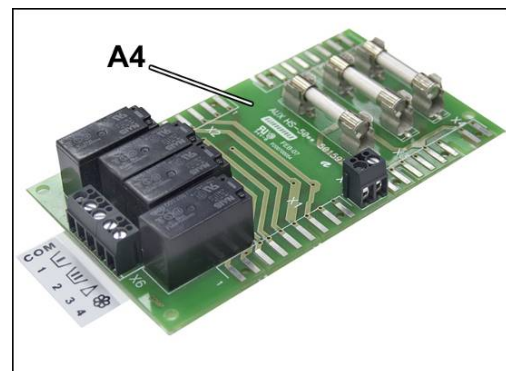

fig. 22
- Connect the cables between the washer and the dosing unit to **A4** board in the order indicated in the table in section 3.6.2. (fig. 22).